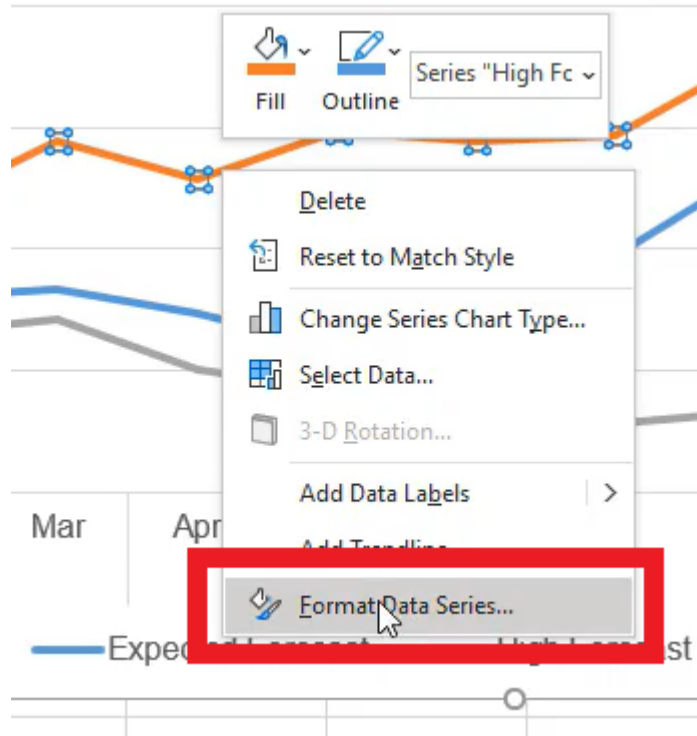

Figure 37.4
2. Choose **Format Data Series**. (See **Figure 37.4**)